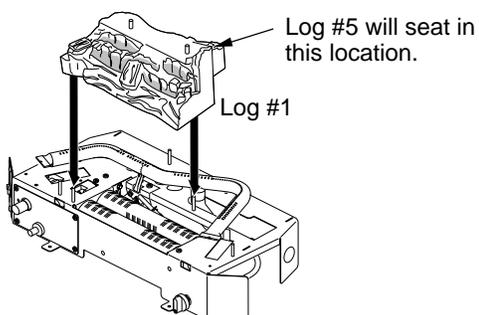

Figure 19 - Installing Log #1 (Ember Bed) (Model CSG3924NR Shown)
1. Place log #1 (ember bed) onto base. Position log over alignment screws to left of front burner and behind middle burner. Ember bed will sit on top of front and middle burners (see Figure 19).